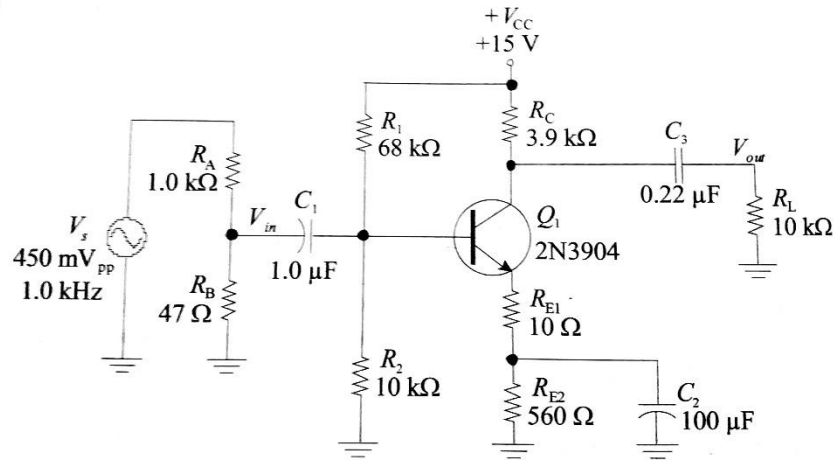

Figure 1
1. Compute the ac and dc parameters listed in Table 1 for the CE amplifier shown in Figure 1. R_A and R_B are not part of the amplifier but are only included as an input attenuator that will provide a 20 mV_{PP} signal to the input (V_{in}). Tabulate your calculations in Table 1.
2. Construct the amplifier shown in Figure 1. Then measure and record the parameters listed in Table 1 and confirm your calculations. You can assume the input signal is 20 mV_{PP}, which is difficult to measure accurately, if the signal generator is confirmed to be 450 mV_{PP}.
9. Assume you need to raise the lower critical frequency to 300 Hz. Calculate the value of a bypass capacitor, C_2 , for the circuit in Figure 1 that will accomplish this.
10. What change would you make to the circuit to lower the frequency response in the CE in Figure 1 by a factor of five?